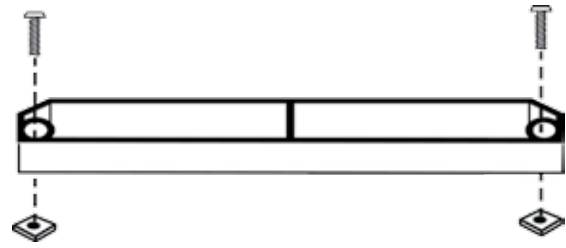

Figure 16-1
6. Assemble the limit cams by placing the supplied screws into the open side of the cam and loosely screwing the square nuts onto the screws. [Figure 16-1]